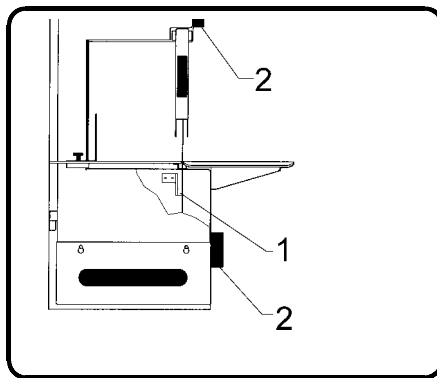

Fig. 7.6.5
7.6.6 Cleaning of blade-guide bosses (Fig. 7.6.5)